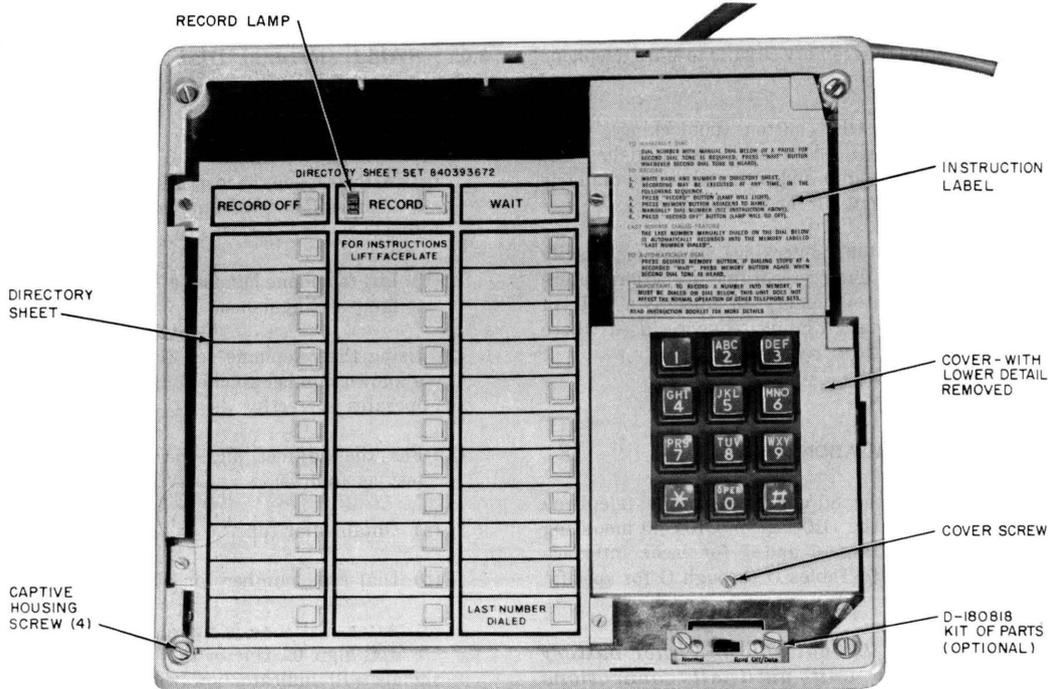

Fig. 2—2870A1 Dial, Faceplate Removed
3.04 Directory sheets (Fig. 2) are held in place under the faceplate. Additional sheets are available in directory sheet set.
- (1) Remove faceplate (3.10).
- (2) Loosen the captive screw at the bottom of the cover around the dial and remove the cover.
- (3) Disengage dial from chassis (6.05 or 6.06).
- (4) Loosen the four captive Memory mounting screws (Fig. 2).
- (3) Loosen the captive cover screw at the bottom of the cover around the dial (Fig. 2).
- (4) Remove the cover.
- (5) Loosen the two captive dial mounting screws.
- (1) Disconnect the power unit from ac outlet.
- (2) Remove the faceplate (3.10).
- (3) Disengage the captive housing screws (Fig. 2). One is located in each of the four corners of the chassis.